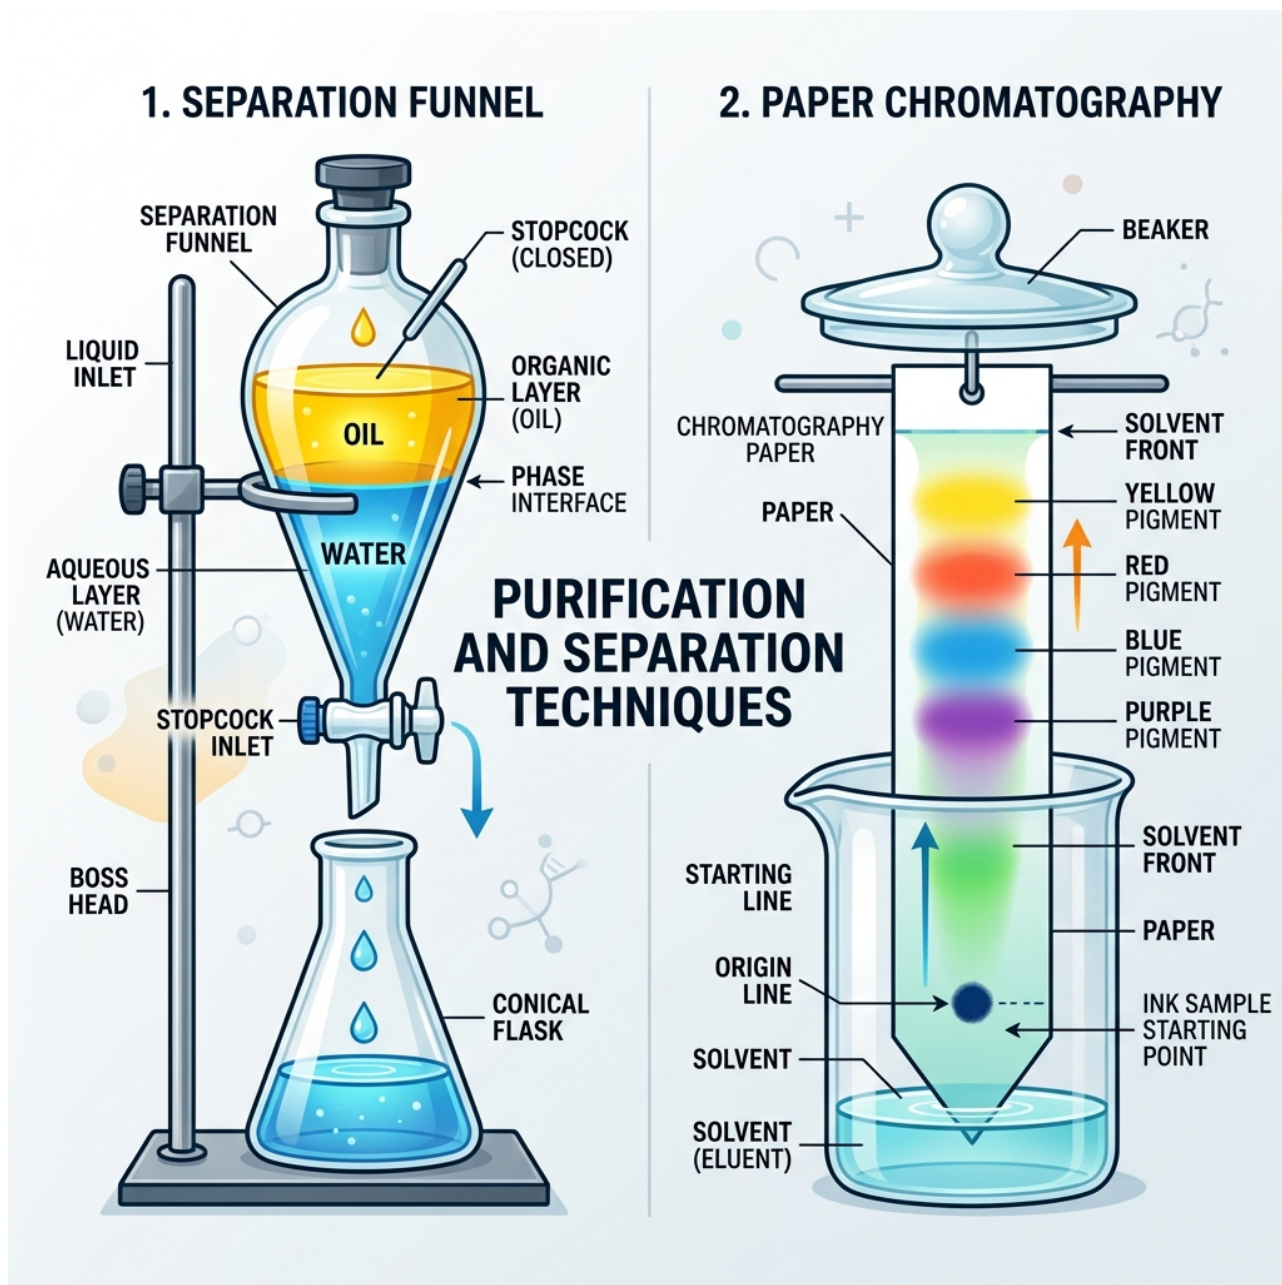

Figure 3.1: Technical setups for separating funnel extraction and paper chromatography.
5. **Paper Chromatography:** Separates different solutes based on their relative solubility in a mobile phase (solvent) and adsorption on a stationary phase (filter paper), as shown in Figure 3.1.